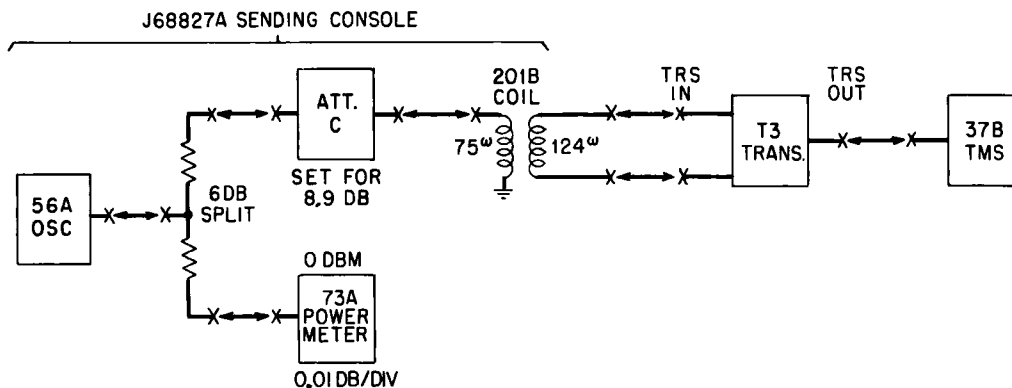

Fig. 1 — Test Arrangement for Gain, Signal Balance and Carrier Harmonic Phase
- (1) In Fig. 1 patch directly from ATT C to the 37B set. The frequency of the 56A oscillator and the setting of ATT C will be stated as part of subsequent measurements. For example: "Calibrate the 37B TMS for -15 dbm at 5.139 mc. "
- (2) Set 56A oscillator for the frequency of measurement and adjust for 0 db output on the 73A power meter.
- (3) Tune the 37B TMS for maximum reading on expanded scale meter. Adjust SENS 1 and 2 to maintain approximate midscale indication. Adjust CAL control of the TMS for a reading of zero on the expanded scale meter.
- (1) Set up the test arrangement shown in Fig. 1. This will send -9 dbm level to the TRS IN jacks of the T3 terminal.
- (2) Set the key on carrier level control panel to BAL position.
- (3) Set the 56A oscillator for 1 mc and adjust for 0 dbm output on the 73A power meter.
- (4) Calibrate per Paragraph 6.03 the 37B TMS for $-15 \pm 0 \text{ db}$ at 5.139 mc. Tune the 37B TMS to 5.139 mc and measure level at the terminal TRS OUT jack.
- (1) Set up the test arrangement as shown in Fig. 1.
- (2) Set key on carrier level control panel to OPR position.
- (3) Set the 56A oscillator for 4 mc and adjust for 0 dbm output on the 73A power meter.
- (4) Tune the 37B TMS to 4 mc and measure at TRS OUT jacks.
- (5) Adjust SIG BAL 1 control on the modulator panel to obtain a minimum measurement.
- (1) Set up the test arrangement shown in Fig. 1 with the carrier level control key in BAL position.
- (2) Set the 56A oscillator for 4 mc and adjust for 0 dbm output on the 73A power meter.
- (3) Tune the 37B TMS to 8.417 mc and measure level at TRS OUT jacks of the terminal.
- (4) Adjust the CARR HRM PHASE control on the carrier harmonic supply panel to obtain a minimum measurement. When adjusting the CARR HRM PHASE control use a nonmetallic screwdriver.